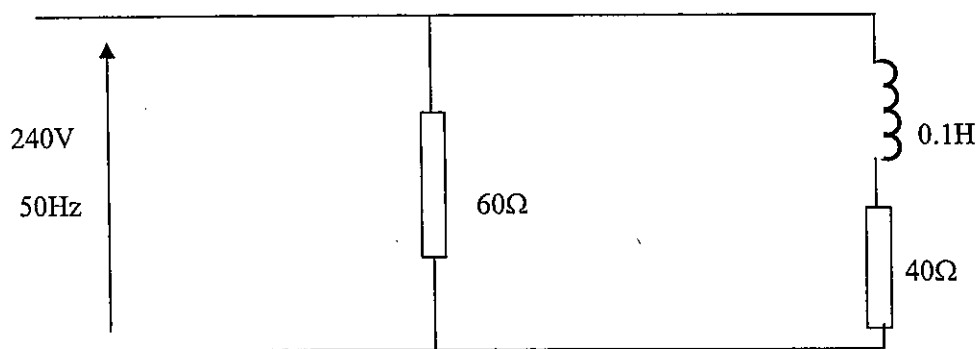

Fig Q5
- the new motor current; (5)
- the new speed; (5)
- the output torque at the new speed; (4)
- the efficiency. (2)
5. An a.c. circuit comprises two parallel branches as shown in Fig Q5. It is connected to 240V 50Hz.